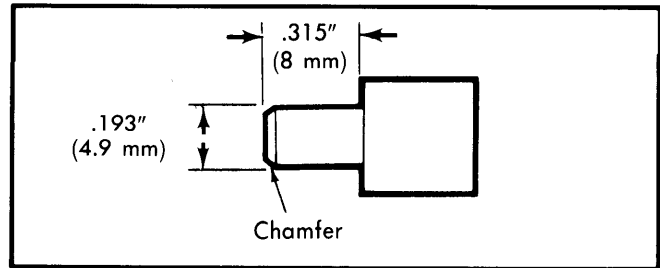

Fig. 4 Dimensions for Fabricating Guide Pin
2) Loosen secondary piston stop screw. Push secondary piston into cylinder bore with a screwdriver and remove stop screw and "O" ring. Insert fabricated guide pin (See Fig. 4) into stop screw hole and release pressure on secondary piston. Remove secondary piston return spring and cup (using low pressure air if required). Remove brake line fittings, gaskets, check valves and springs.